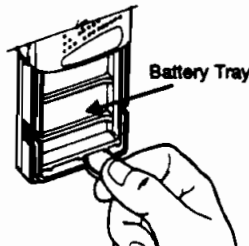

Figure 10.
4. Insert a coin in the gap of battery tray. Refer to Figure 10. Gently pry base of battery tray away from housing and lift battery tray out of housing. Proceed to Step 5.